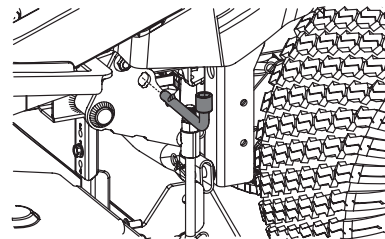

Figure 49
5. Use the deck lift pedal and deck lift knob to place the deck in the lowest position and use the multi-tool to lock the deck lift components in place. There are a pair of alignment holes by the rear wheel on the left side of the tractor (one on the frame and one on the deck lift arm) as shown in Figure 49. Ensure tool is fully inserted properly, locking the deck lift arm in place to the frame.